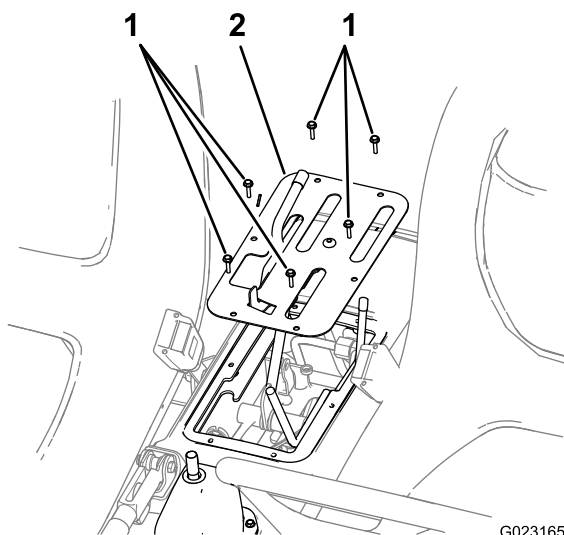

Figure 3
3. Remove the 6 screws securing the outside edge of the cover plate of the center console to the chassis and remove the cover plate (Figure 3).